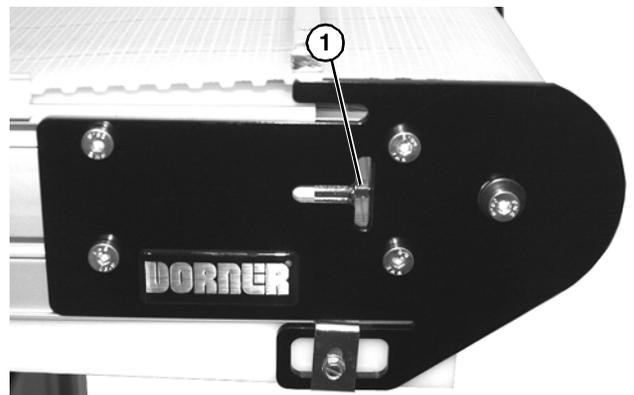

**Figure 29**
1. Ensure tensioning racks are extended and touching the idler pulley headplates: loosen the pinion locking screw (**Figure 29, item 1**) and rotate the pinion torque screw (**Figure 29, item 2**) clockwise until contact with the head plate is made, then tighten the pinion locking screw (**Figure 29, item 1**) to 69 in-lbs (7.8 N-m).
2. On the side of conveyor to be adjusted, loosen two (2) tail clamp screws (**Figure 29, item 3**).
4. Re-tighten the head plate fastening screws (**Figure 29, item 3**) with a 8 mm hex-key wrench to 146 in-lb (16.5 Nm).